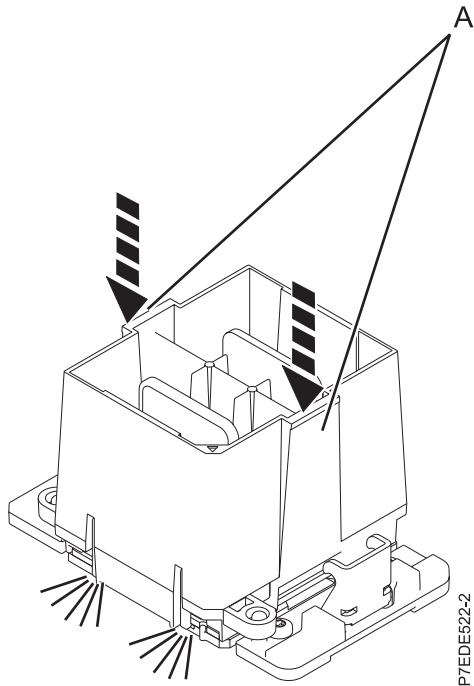

Figure 6. Locking the system processor module into the tool
- c. With the removal tool (A) sitting on top of the system processor module, push down on the tool to lock the system processor module into the tool, as shown in Figure 6.